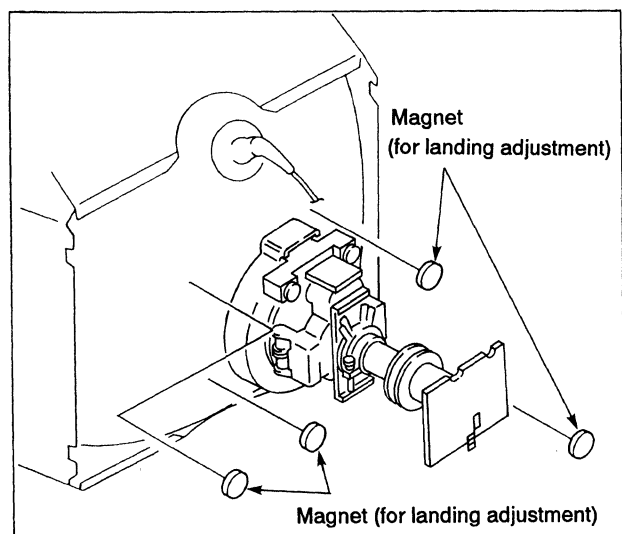

Fig. 6-3-8
- 6) After again the CRT for at least 30 minutes, install a wobbling coil on the neck of the CRT, then adjust the deflection yoke position with the landing checker and adjust the purity, the four corner landing, and the deflection yoke tilt. The four corner landing error must be no greater than $5\mu\text{m}$ for green and no greater than $14\mu\text{m}$ for blue and red. As necessary, attach CRT magnets as shown in Fig. 6-3-8 (no more than one magnet at each corner).